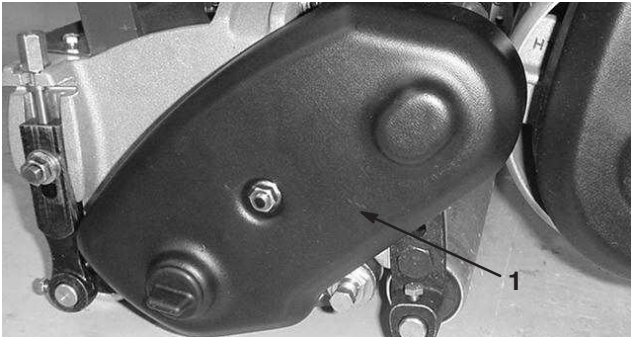

Figure 14
22. On the left end of the cutting unit, remove the belt cover (Fig. 14).